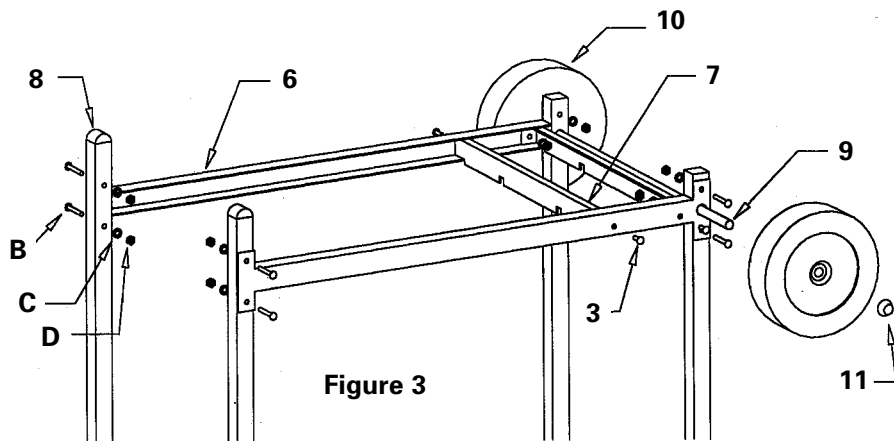

Figure 3
3. Refer to Figure 3. Select the following items: